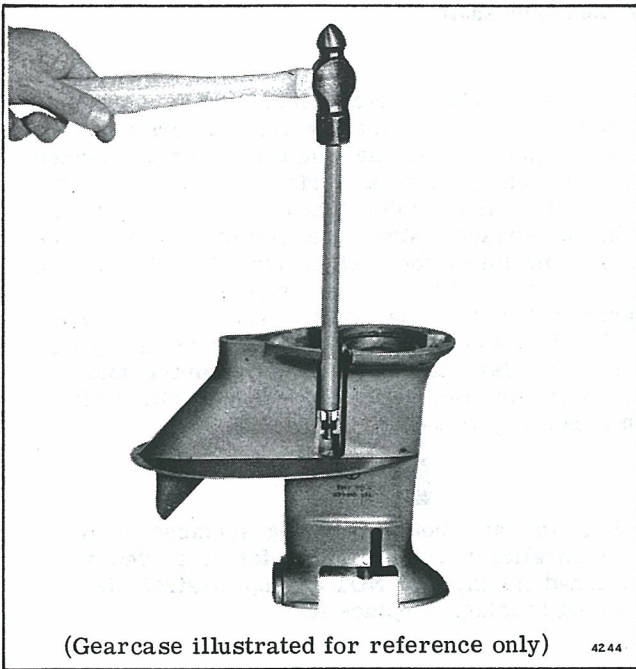

Figure 6-18. Shift Rod Bushing Mandrel
- a. Install shift rod bushing and new "O" ring, using Bushing Mandrel (Special Tool #304515). See Figure 6-18. Assemble shift rod and detent spring to gearcase.